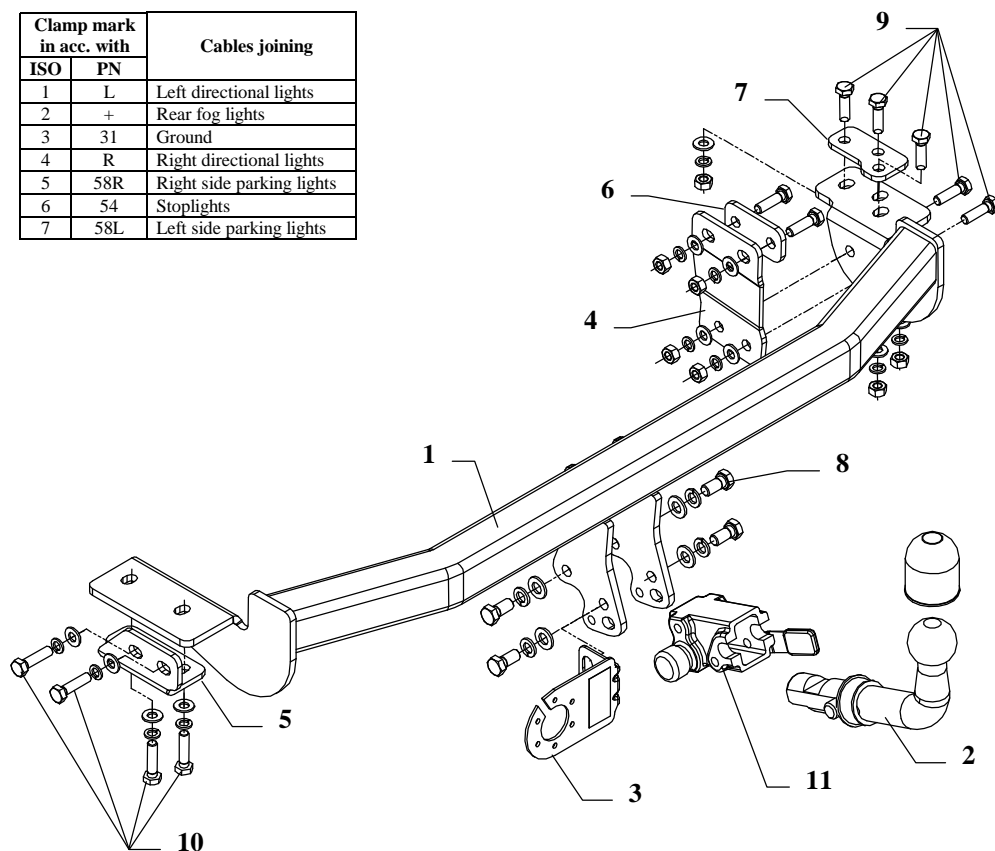

Fig. 1
6. Put main bar of the towbar (pos. 1) to chassis and fix as shown in the fig. 1, use angle element – pos. 5 (left side) and elements pos. 4, 6 and 7 (right side).
8. Fix body of the automat (pos. 11) and the socket plate (pos. 3) using bolts M12x25mm (pos. 8) from accessories. Place tow-ball (pos. 2) according to supplied instruction.